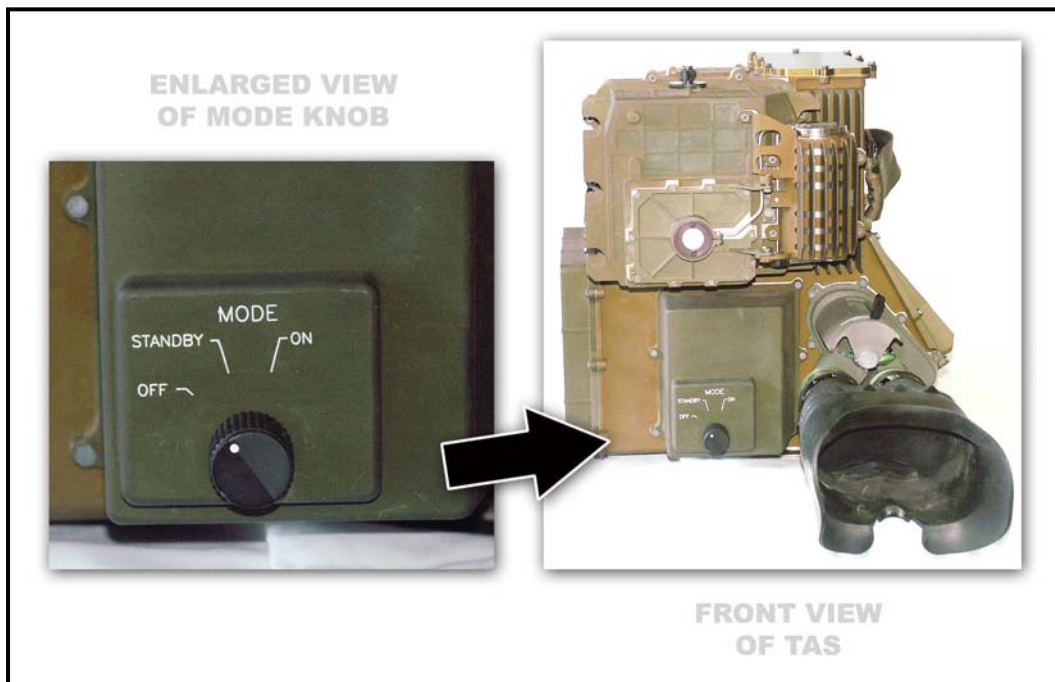

Figure 2-20. TAS power switch with MODE knob.
b. **Power Switch.** The TAS power switch contains a three-position rotary MODE knob that controls the TAS mode of operation by its position (OFF, STANDBY, and ON) (Figure 2-20, page 2-14). Each position brings different components of the TAS into operation.